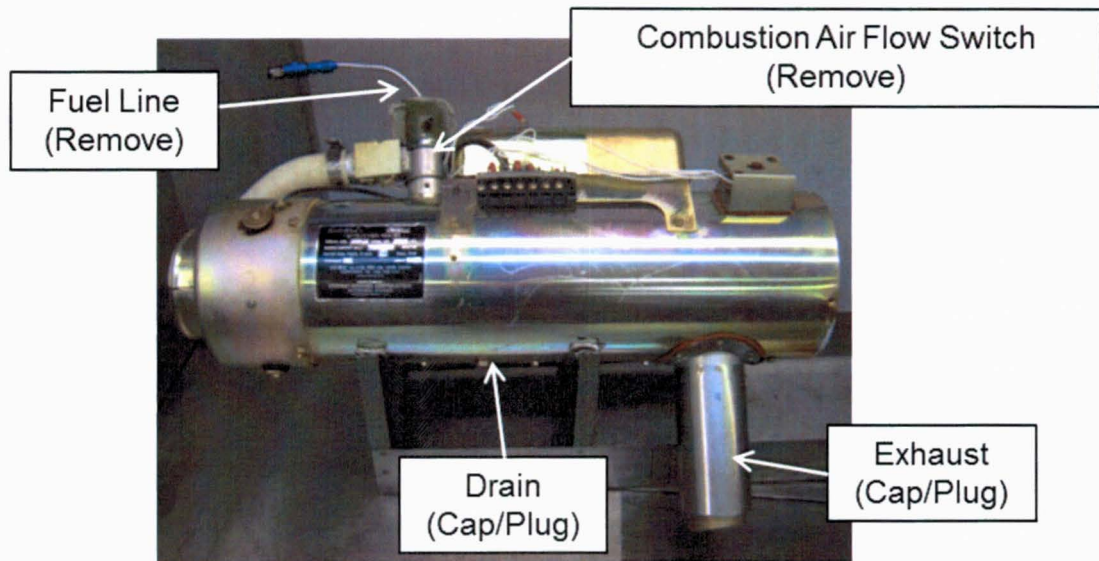

Figure 1
- 6.1 To conduct the pressure decay test the heater must be sealed at all openings into the combustion chamber assembly. The openings into the combustion chamber include the combustion air inlet tube, the fuel drain, the spark plug hole and the exhaust tube. (Figure 1)